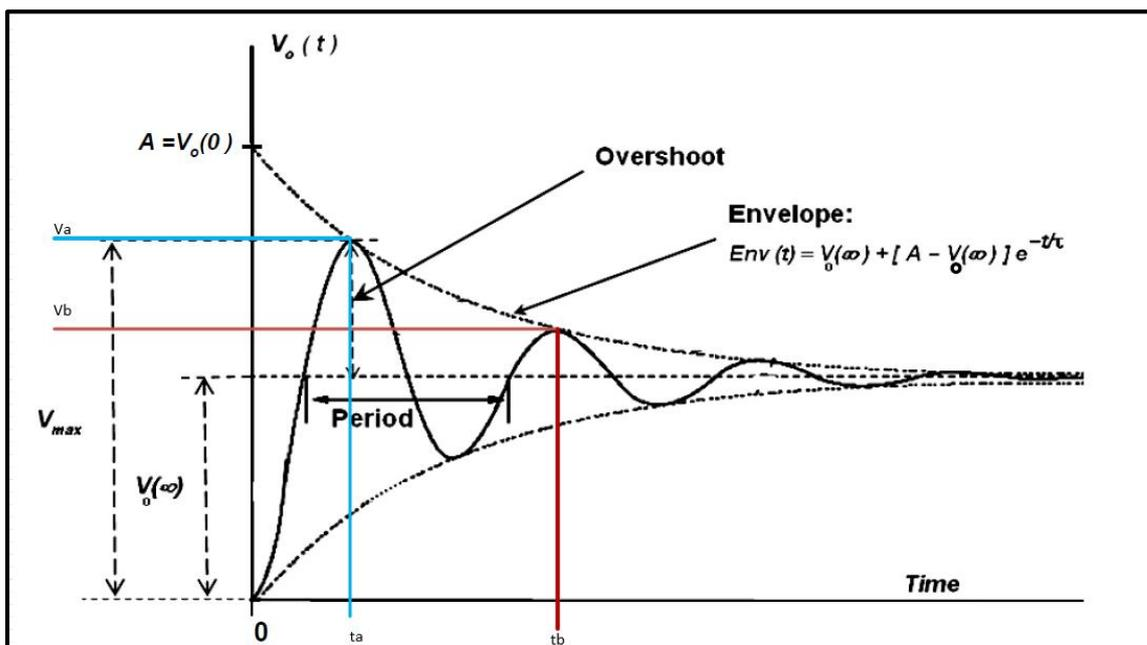

Figure 7.4: Example of calculating α and ω_d of underdamped response
3. For $R = 500 \Omega$, calculate the roots of the characteristic equation, **showing the value of α and ω_d** and write an expression for $V_C(t)$. Use PSPICE to do transient analysis of the circuit, show $V_C(t)$, and measure **α and ω_d using cursors as shown in figure 7.4.**
1. For $R = 4 \text{ k}\Omega$, calculate the roots of the characteristic equation **showing the value of α and ω_d** . Write an expression of $V_C(t)$. Use PSPICE to do transient analysis of the circuit, show $V_C(t)$, and measure **α and ω_d using cursors as shown in figure 7.4.**
- Use cursors to find the values of V_a , t_a , V_b , t_b , and $V(\infty)$, as shown in figure 7.4, record results in Table 7.1.
- Use cursors to find the values of V_a , t_a , V_b , t_b , and $V(\infty)$, as shown in figure 7.4, record results in Table 7.2.